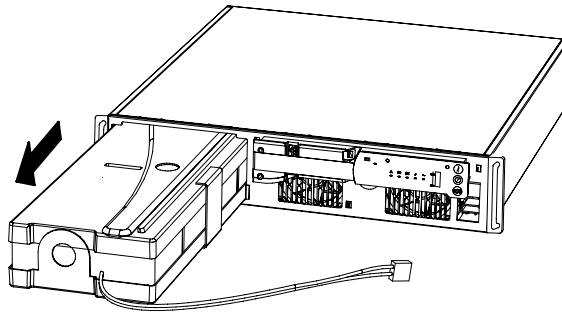

Figure 28. Removing the Battery
4. Pull the battery out onto a flat, stable surface (see Figure 28). See "Recycling the Used Battery or UPS" on page 42 for proper disposal.